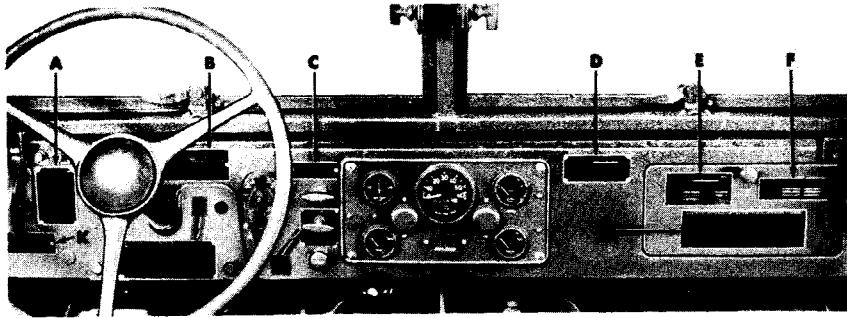
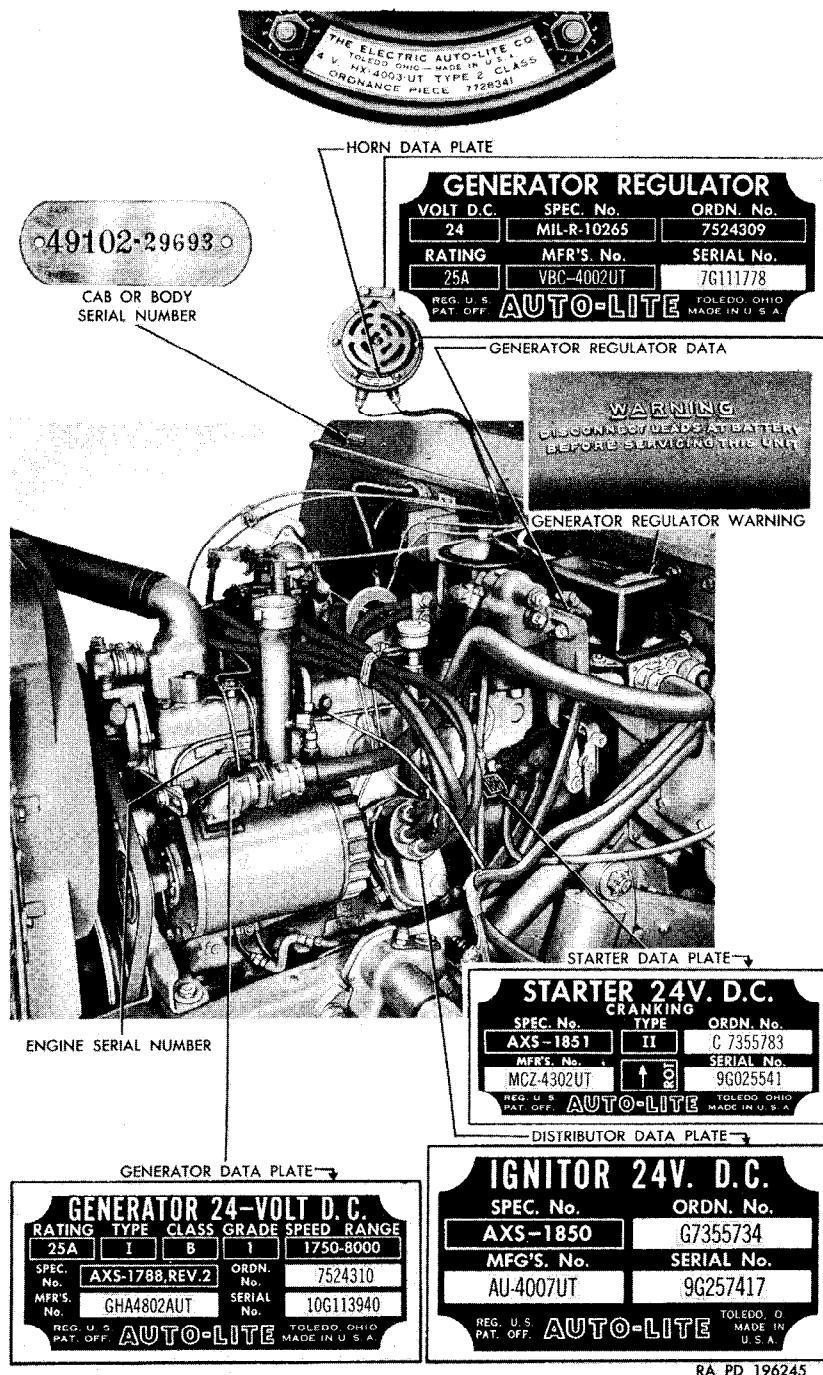
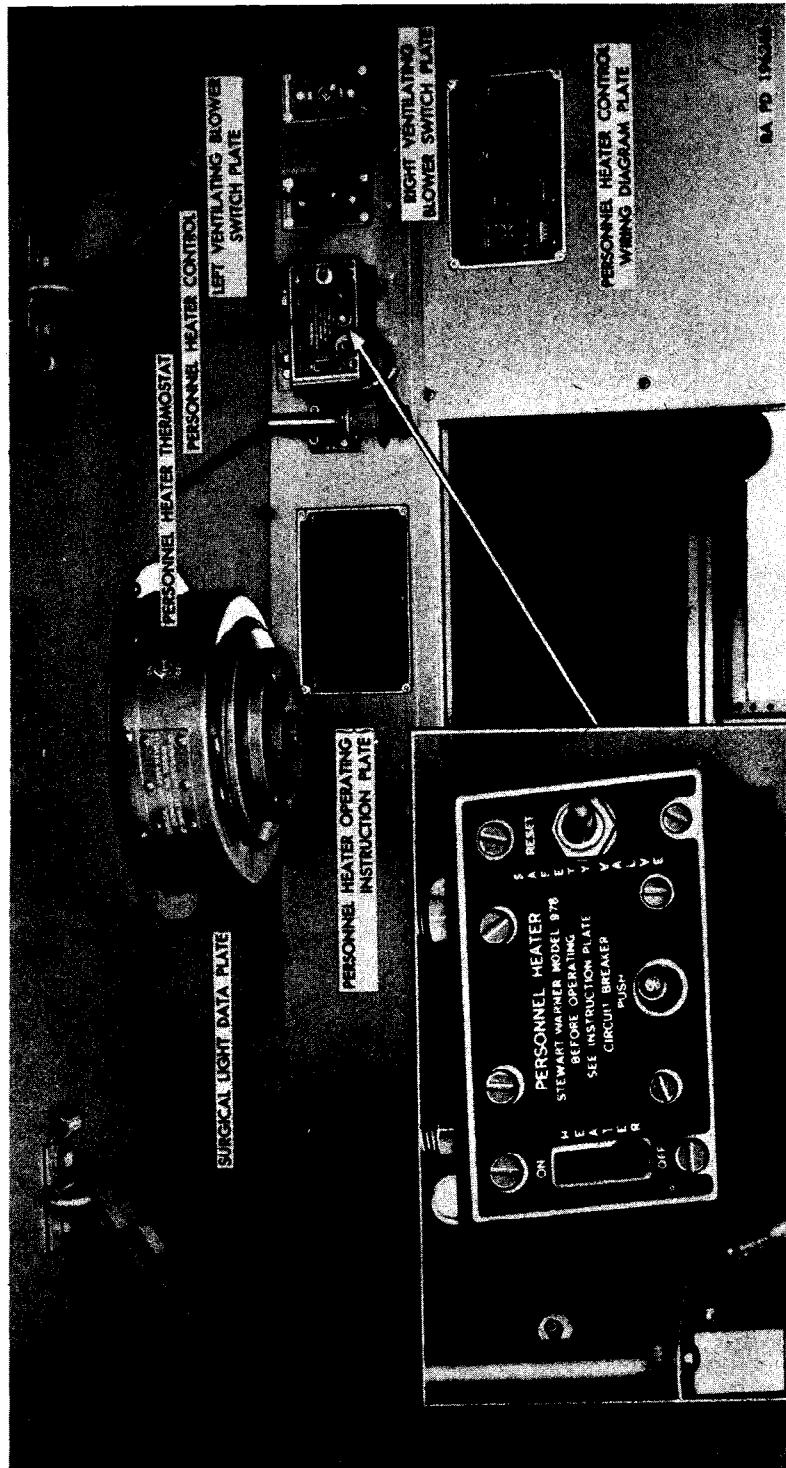

Figure 8. Data, caution, and instruction plates in driver compartment.
Figure 9. Data plates, serial numbers, and generator regulator warning in engine compartment.
Figure 10. Data and instruction plates in patient compartment (ambulance truck M43).
a. General. Various data, caution, and instruction plates provide pertinent information regarding identification and/or operating instructions for the vehicles. These plates are located on the instrument panel in the driver compartment (fig. 8), in the engine compartment (fig. 9), and in the patient compartment of the ambulance truck M43 (figs. 10 and 11).
b. Winch Caution Plate (A, fig. 8). This plate provides a diagram of the power-take-off shift lever positions, specifies the winch capacity, and cautions the operator concerning proper operation.
c. Transmission and Transfer Gearshift Instruction Plate (B, fig. 8). This plate provides a diagram of the various positions for the transmission and transfer shifting levers, and cautions the operator regarding maximum permissible road speeds.
d. *Throttle Fording Instruction Plate* (C, fig. 8). This plate (on vehicles so equipped) provides instructions for use of the throttle for fording operation.
e. *U. S. Property Conversion Identification Plate* (D, fig. 8). This plate identifies the command truck M42 and lists the ordnance number. The plate is a component of the conversion kit used for converting a cargo truck M37 to a command truck M42.
f. *U. S. Property Identification Plate* (E, fig. 8). This plate provides the ordnance stock and serial numbers, manufacturer's serial, part, and contract numbers, year and model designation, and date of inspection.
g. *Responsible Agency Plate* (F, fig. 8). This plate indicates the responsible procurement and depot maintenance units for chassis, body, and equipment.
h. *Weight and Dimension Data Plate* (G, fig. 8). This plate provides information on dimensions, weight distribution, payload, and towed load.
i. *Crankcase Ventilation Valve Dual Control Plate* (H, fig. 8). This plate (on vehicles so equipped) fits over the crankcase vent valve control and provides instructions for use of this control for fording operation.
j. *Servicing Data Instruction Plate* (J, fig. 8). This plate provides information on fuel, engine oil, lubricants, and tire inflation requirements.
k. *Publications Data Plate* (K, fig. 8). This plate lists publications and lubrication order pertinent to the vehicles.
l. *Horn Data Plate* (fig. 9). This plate provides identification information on the horn.
m. *Starter Data Plate* (fig. 9). This plate provides identification information on the starter and direction of rotation.
n. *Distributor (Igniter) Data Plate* (fig. 9). This plate provides identification information on the distributor.
o. *Generator Regulator Data Plate* (fig. 9). This plate provides identification information on the generator regulator.
p. Generator Regulator Warning (fig. 9). This warning reads "WARNING—Disconnect leads at battery before servicing this unit."
q. Generator Data Plate (fig. 9). This plate provides identification information on the generator.
r. Engine Serial Number (fig. 9). This number identifies the particular engine.
s. Cab or Body Serial Number Plate (fig. 9). This plate identifies the cab or ambulance body model and serial number.
t. Surgical Light Data Plate (Ambulance Truck M43) (fig. 10). This plate provides identification information on the surgical light.
u. Personnel Heater Operating Instruction Plate (Ambulance Truck M43 Only) (fig. 10). This plate provides operating instructions for the personnel heater.
v. Personnel Heater Control Plate (Ambulance Truck M43 only) (fig. 10). This plate identifies the heater controls.
w. Ventilating Blower Switch Plates (Ambulance Truck M43) (fig. 10). These two plates identify the toggle switch positions.
x. Personnel Heater Control Wiring Diagram Plate (Ambulance Truck M43) (fig. 10). This plate illustrates the wiring hook-up of the thermostat and the heater control.